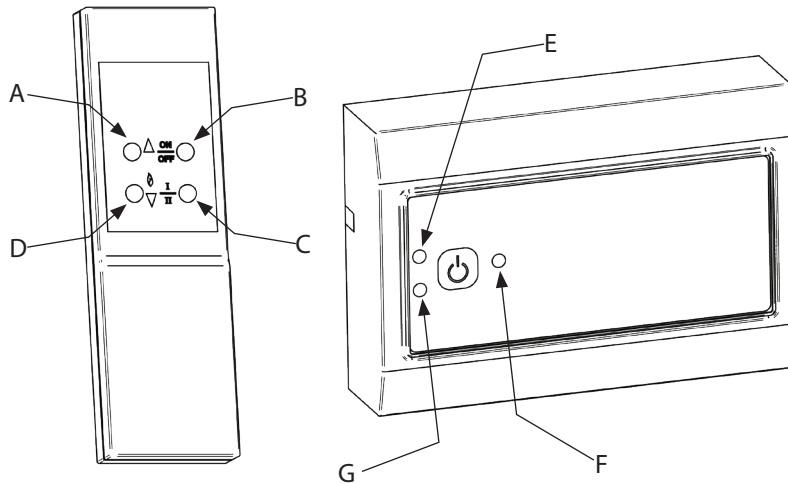

Fig.12
- Press ON/OFF button (Fig. 12-B) and the Burner button (Fig. 12-D) for at least a second to ignite the fire.
- Operating LED (Fig. 12-E) will flash GREEN until the correct chimney draught is achieved. If the LED flashes YELLOW, then the Air inlet must be opened and the fire will ignite.
- If it is available, then the flame HIGH/LOW function can be selected using the HIGH/LOW button (Fig. 12-C). The operating LED will blink once for LOW and twice for HIGH.
- To switch off press the ON/OFF button again (Fig. 12-B).
- The ventilation function can be activated by pressing the ON/OFF button on the remote control (Fig. 12-B) for five seconds The operating LED will be YELLOW when the function is active.
- Press the ON/OFF button (Fig. 12-F).
- The operating LED (Fig. 12-E) will flash GREEN until the correct chimney draught is confirmed. If it flashes YELLOW, then the Air inlet must be opened The operating LED will then become GREEN and the fireplace can be lit.
**Operating LED (Fig. 12-E)**
**Alarm LED (Fig. 12-G)**
If the alarm LED (Fig. 12-G) activates during operation, press the ON/OFF button twice to stop the fan and restart the controller. If the alarm LED remains on after reset, please refer to the "Troubleshooting" section.
Press the ON/OFF button (Fig. 12-F) for at least four seconds to increase the fan's operating speed. If the controller is switched off, the fan speed will be reset.